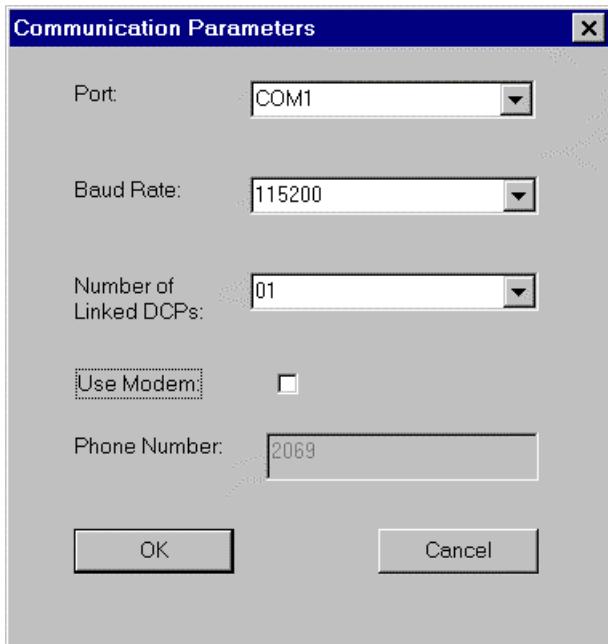

Figure 4.2 Network configuration dialog.
Step 2. Configure Network: From the configure menu, click Network. The dialog box shown in Figure 4.2 will appear on screen.